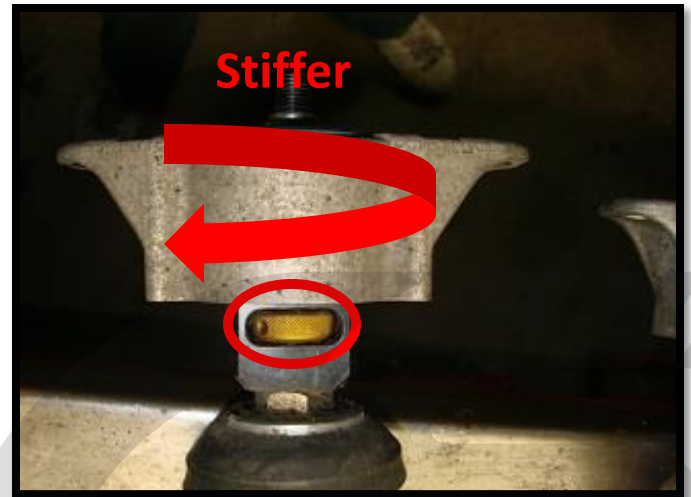

Figure 10a
- a) **Adjust the dampening in the front to the desired level.** Starting soft and moving up is generally the easiest way to tell difference (front adjuster shown in **Figure 10a**).